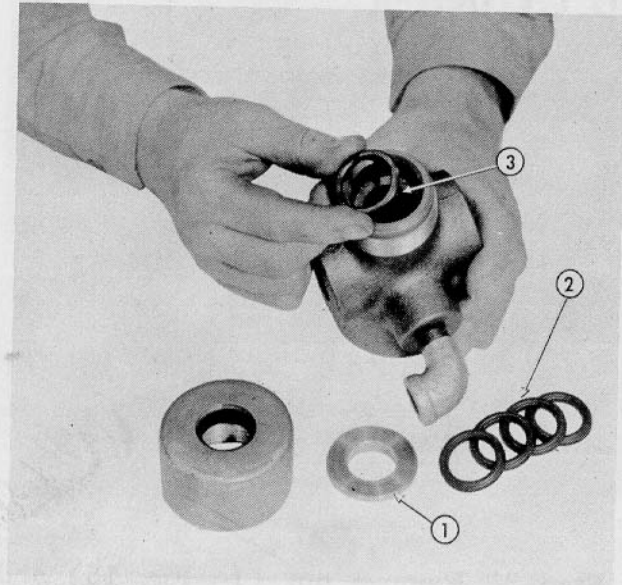

Fig. 17
Step 7—Remove aluminum packing gland (1—Fig. 17) and packing set.
Step 8—Install new packing set (2), flat bottom ring (3) first. Be sure “Y” face of rings is down.
Step 10—Fit aluminum packing gland (1) in place and loosely screw packing nut onto yoke.